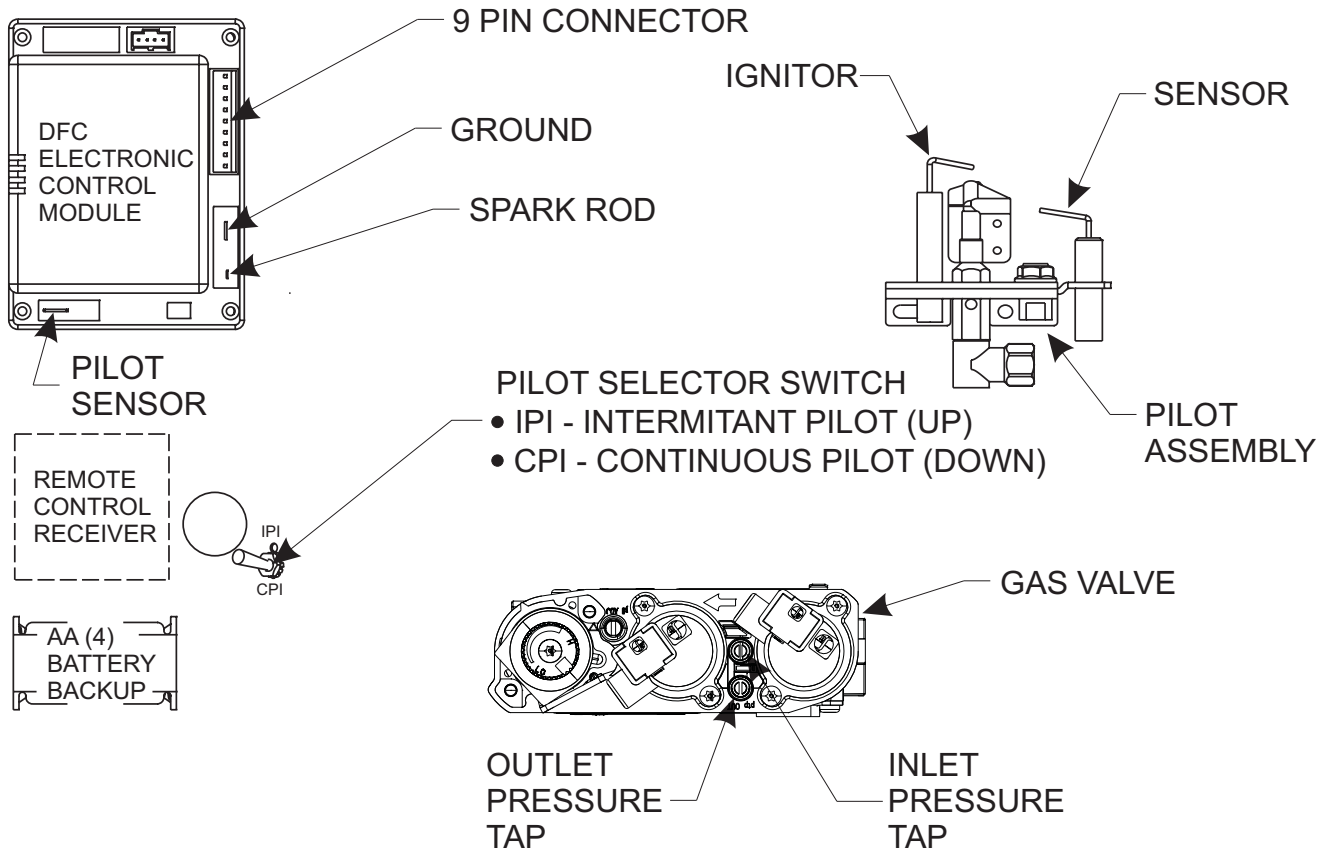

Figure 20
NOTE: A small toggle switch is located on a bracket that is used to switch from IPI (upward position) to the CPI (downward position). See **Figure 20**.
3. The gas valve has inlet and outlet pressure taps as shown in **Figure 20**. Refer to pages 10 and 11 for gas pressure requirements.
NOTE: The gas control has a manual HI/LO flame adjustment knob (regulator) that allows you to increase or decrease the height of the burner flame. See **Figure 20**. Rotate the HI/LO knob counterclockwise to "HI" to increase the flame height, and clockwise to "LO" to decrease the flame height.